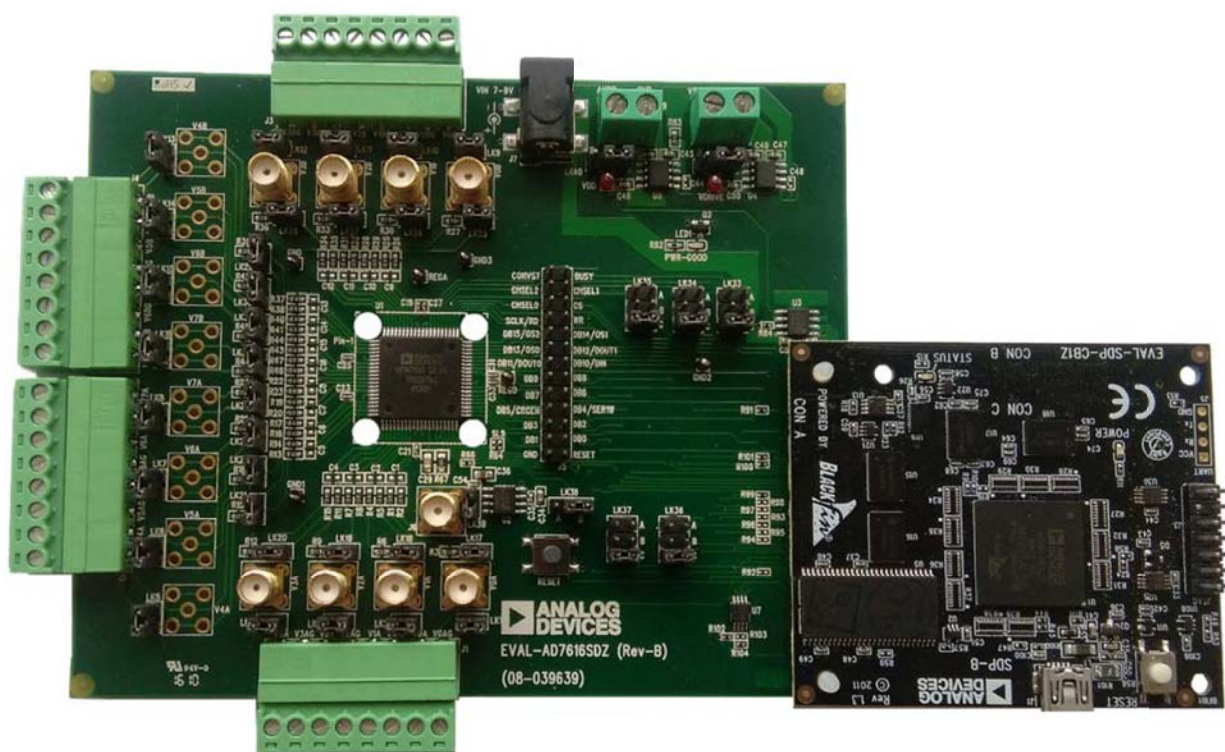

Figure 2. EVAL-AD7616SDZ/EVAL-AD7616-PSDZ Evaluation Board (Left) Connected to the EVAL-SDP-CB1Z Board (Right)
4. Connect the EVAL-SDP-CB1Z board to the evaluation board, shown in Figure 2.
The EVAL-AD7616SDZ/EVAL-AD7616-PSDZ evaluation board connects to the EVAL-SDP-CB1Z. The EVAL-SDP-CB1Z is the controller board, which is the communication link between the PC and the EVAL-AD7616SDZ/EVAL-AD7616-PSDZ. Figure 2 shows a photograph of the connections between the EVAL-AD7616SDZ/EVAL-AD7616-PSDZ evaluation board and the EVAL-SDP-CB1Z.